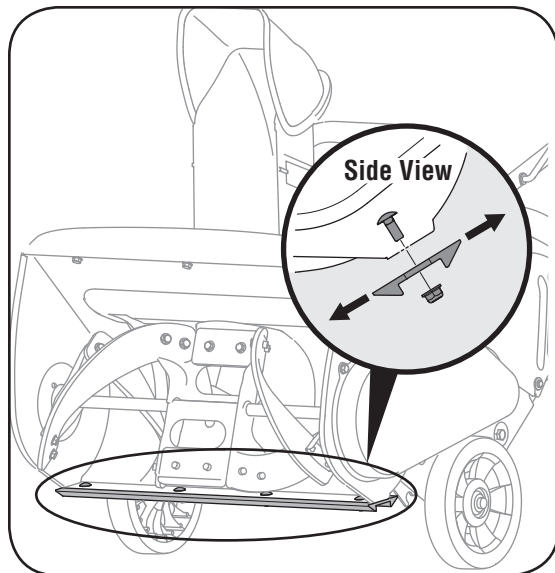

Figure 7
2. To adjust, tip the snow thrower back so that it rests on the handle. Loosen the four lock nuts and bolts which secure the shave plate to the housing. See Figure 7. Move the shave plate to desired position and retighten the nuts and bolts securely.
The shave plate is attached to the bottom of the auger housing and is subject to wear. It should be checked periodically. There are two wearing edges and the shave plate can be reversed. Refer to Figure 7. To replace or reverse the shave plate proceed as follows.